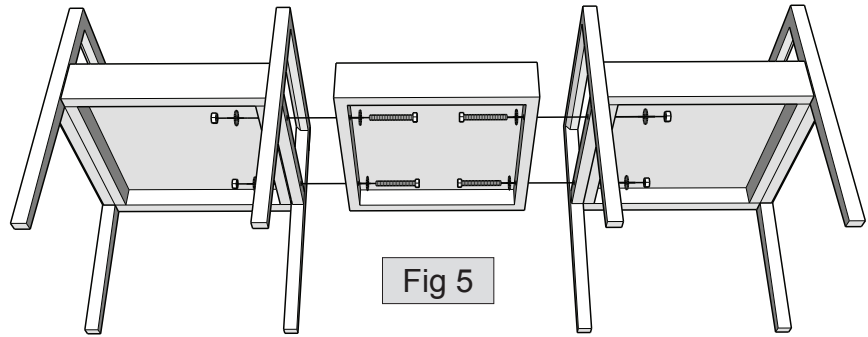

Fig 5
2. Connect center seat cushion to left and right chair frames using 5" bolts, washers and nuts, as shown in figure 5. Once all 4 bolts are started, tighten all securely.